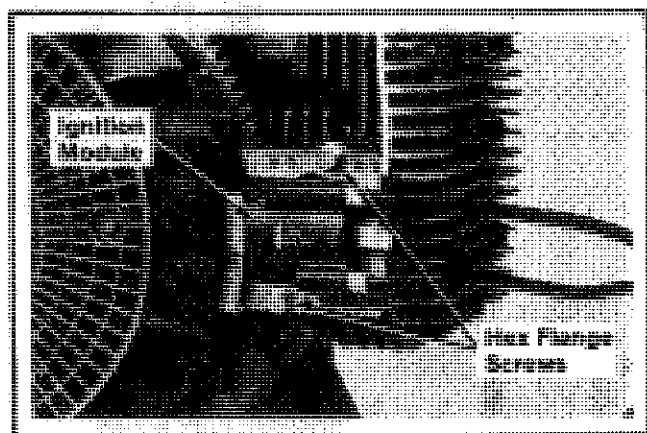

Figure 9-15. Removing Ignition Module.
1. Remove the hex flange screws and ignition module. Refer to Figure 9-15.